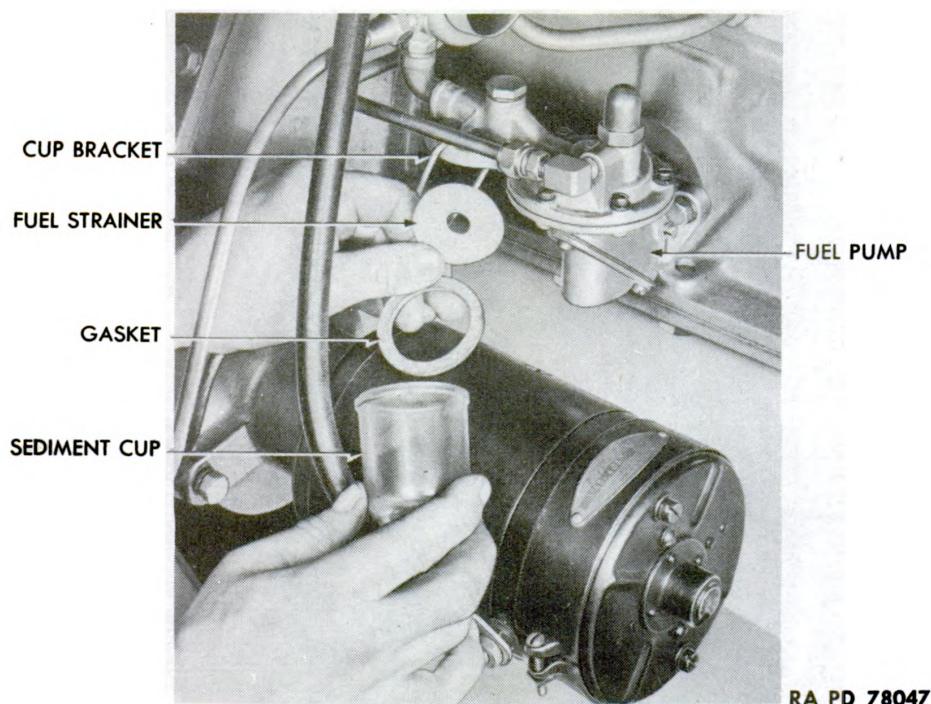

Figure 35 — Sediment Cup and Fuel Strainer Removal
b. Maintenance. The glass sediment cup should be examined daily, and emptied whenever water is found at the bottom. The cup and the wire mesh strainer above it (fig. 35) should be cleaned frequently by washing in SOLVENT, dry-cleaning.